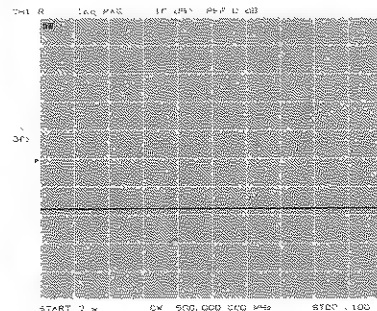

Figure 4. Plot of a mixer's fixed IF/fixed LO/fixed RF output power.
6. Figure 4 shows the attenuated output power of the mixer's IF at the receiver. The conversion loss of the mixer is found by subtracting the attenuation from the total loss between the RF source and IF receiver.